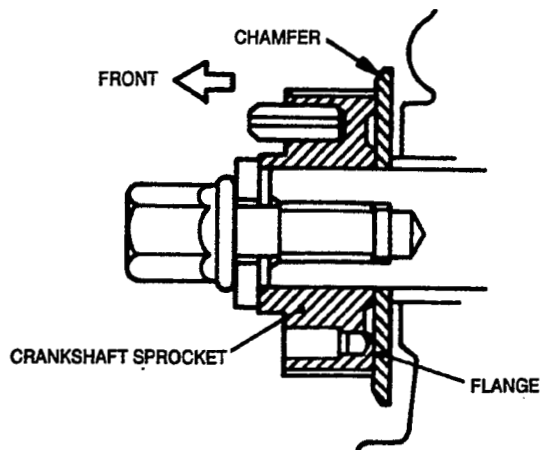

FIGURE 9-43. PROPER INSTALLATION OF FLANGE AND SPROCKET
13. Install the flange and crankshaft sprocket as shown. The chamfered edge of the flange must face the front as shown in Figure 9-43.